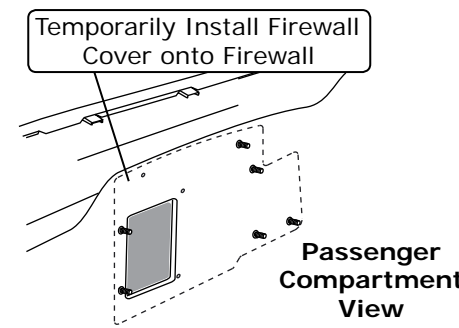

Figure 2
2. Install (6) 1/4-20 x 3/4" bolts with pushnut bolt retainers onto the firewall cover (See Photo 1, below).
3. Temporarily install the firewall cover onto the firewall from the engine side (See Figure 2, below).